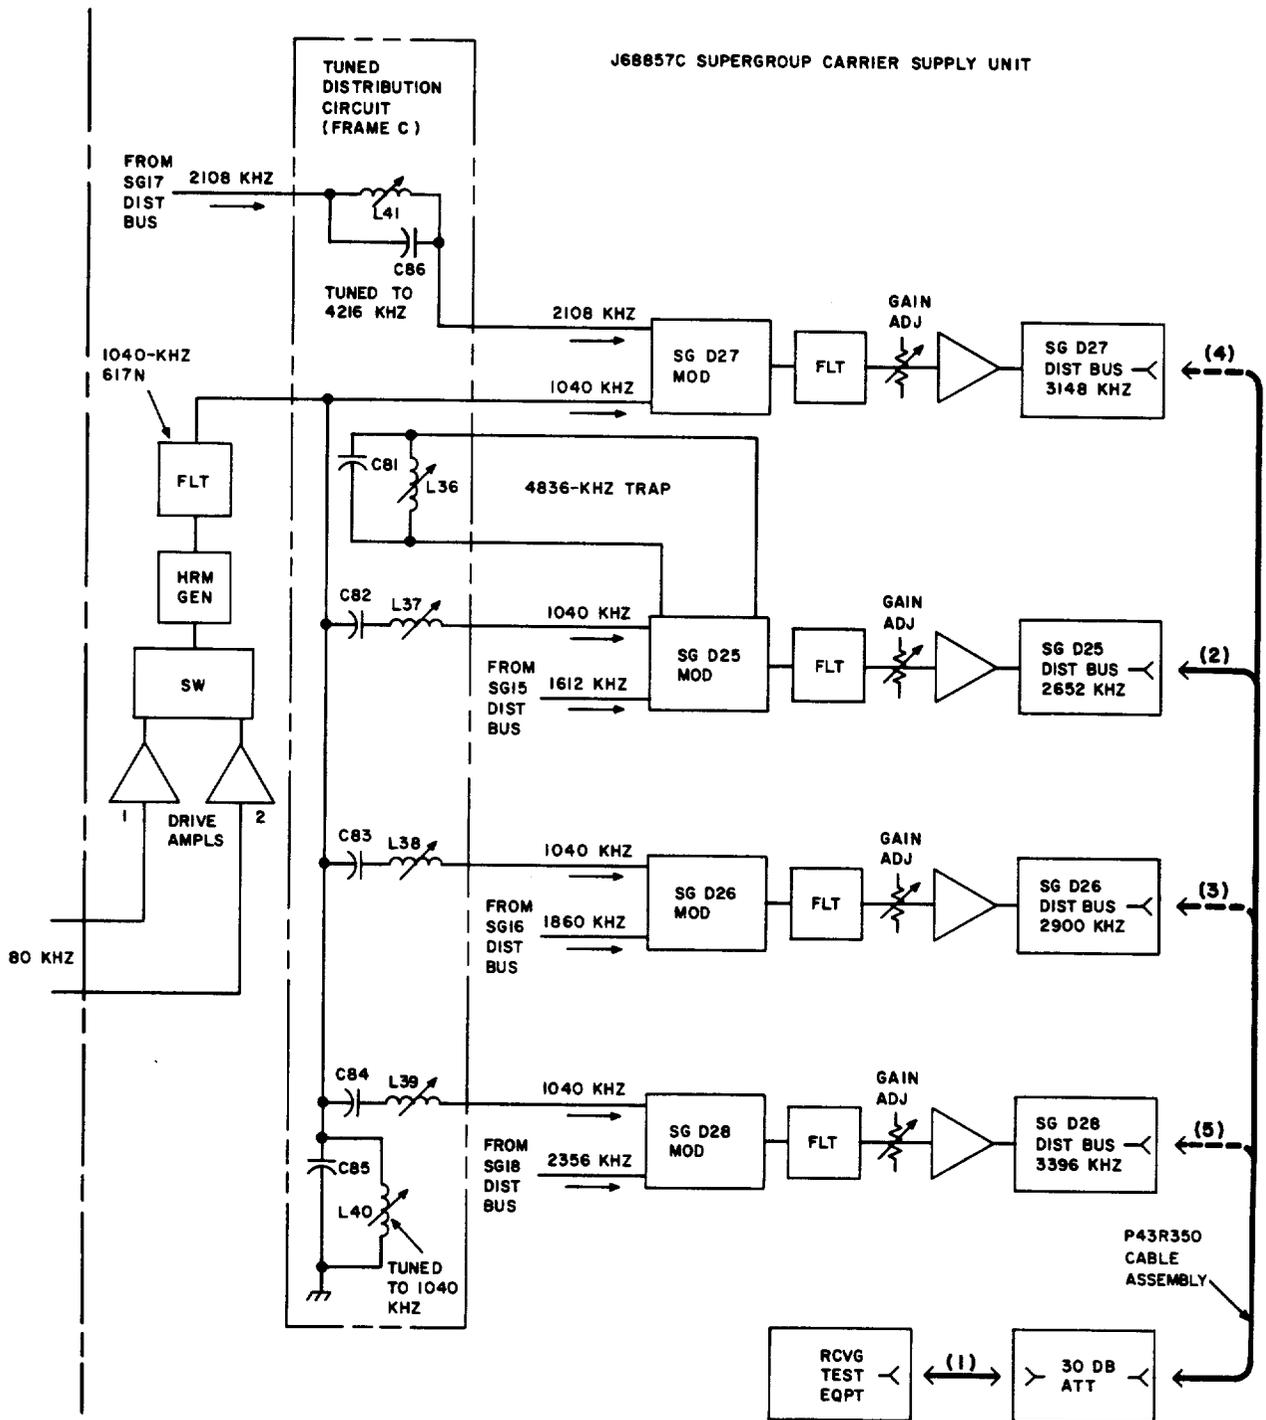

Fig. 3—Supergroup Carrier Supply—Tuned Distribution Circuit
3	Connect the RTE through a 75-ohm attenuator having a 30-dB insertion loss to the SG D25 through bus [patches (1) and (2), Fig. 3].
9	Remove patch (2) and connect the RTE to the SG D27 distribution bus [patch (4), Fig. 3].
18	Remove patches (1) and (4) in Fig. 3.
21	Remove patch (4) and connect the RTE to the SG D25 distribution bus [patch (2), Fig. 3].
31	Remove patch (2) in Fig. 3.
35	Connect the RTE to the SG D26 distribution bus [patch (3), Fig. 3].
38	Remove patch (3) in Fig. 3.
41	Connect the RTE to the SG D27 distribution bus [patch (4), Fig. 3].
47	<p>Remove patch (4) in Fig. 3.</p>
51	<p>Connect the RTE to the SG D28 distribution bus [patch (5), Fig. 3].</p>
54	<p>Remove patch (5) in Fig. 3.</p>